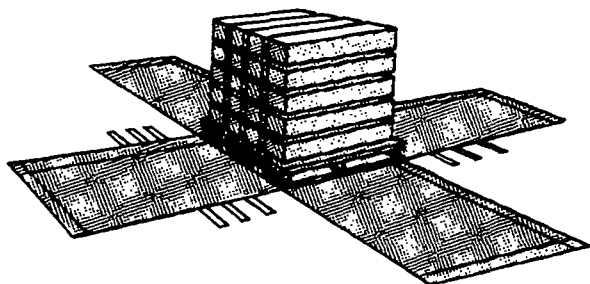

Figure 8-2. Centered Load
The best way to learn about this carrying device is to rig and derig it several times. The following steps and Figures 8-2 through 8-6 explain how to rig an A-22 cargo bag:
Step 3 - Center the load on the canvas/nylon cover (Figure 8-2). Place the load so that any sharp corners or objects are toward the center of the load if possible. Use cushioning material to protect the cover, if necessary.